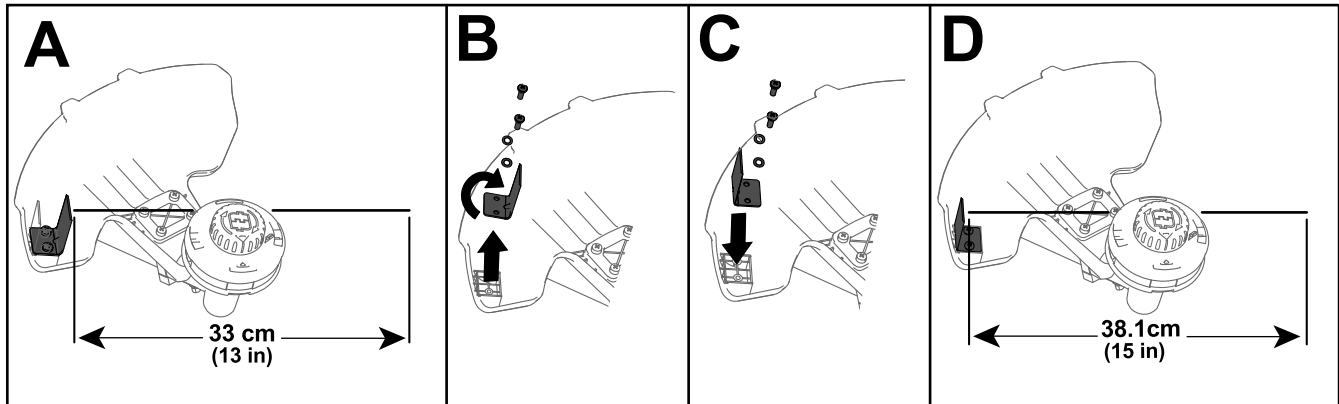

Figure 14
The trimmer comes from the factory with a cutting swath of 33 cm (13 inches) as shown in A of Figure 14. Refer to the following instructions to adjust the swath to 38.1 cm (15 inches) as shown in D of Figure 14.
1. Remove the swath blade from the bottom of the guard by removing the 2 screws holding it in place (B of Figure 14) and rotate the swath blade 180°.
2. Once the swath blade is rotated, install it onto the guard using the 2 screws previously removed (C of Figure 14).